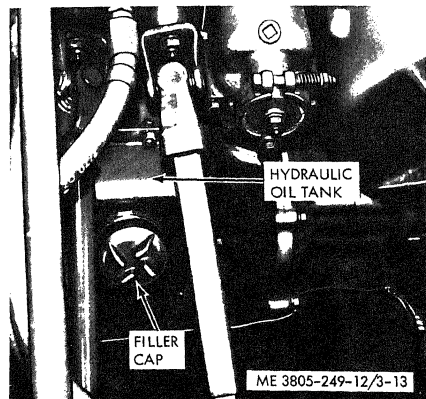

Figure 3-13. Hydraulic filler cap.
- a. With the machine level, the engine off and oil warm, remove the hydraulic filler cap (fig. 3-13). Oil should be visible in the filler opening.